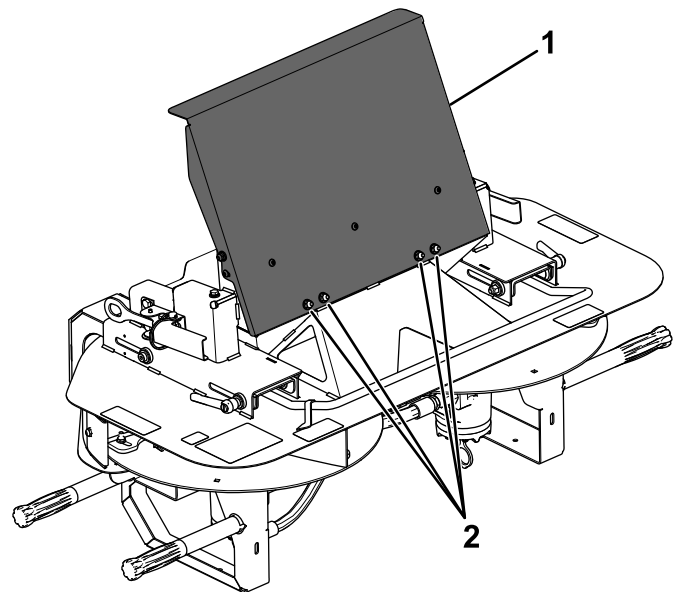

Figure 2
3. Install the hopper door using the supplied carriage bolts (1/4 x 5/8 inch) and locknuts (Figure 2).